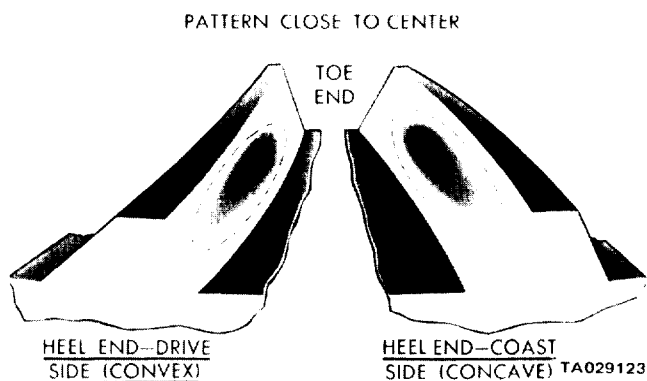

Figure 19-21. Desired Tooth Contact Under Light Load.
b. Observe the contact pattern on the drive gear teeth and compare it with those in figures 19-21, 19-22, and 19-23, to determine if the pattern is properly located. With the pinion depth of mesh and gear backlash set properly, your contact pattern should resemble that in figure 19-21. Notice that the correct contact pattern is well centered on both drive and coast sides of the teeth. When tooth contact patterns are obtained by hand, they are apt to be rather small. Under the actual operating load, however, the contact area increases.